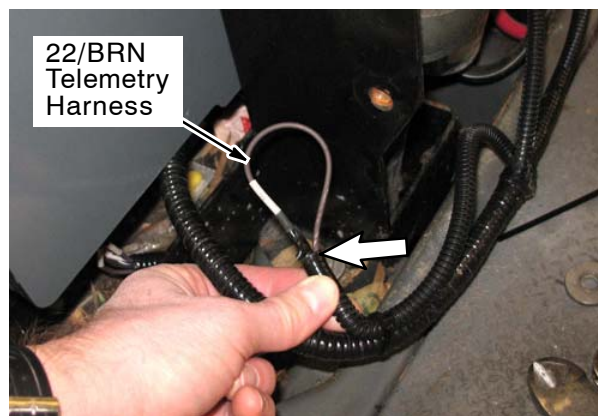

Fig. 15
Machines without ec-H2O system: Insert the wire (22/BRN) connector labeled “ec-H2O Harness”) into the telemetry harness (16) conduit. Use electrical tape to secure the connector inside the conduit. (Fig. 15)